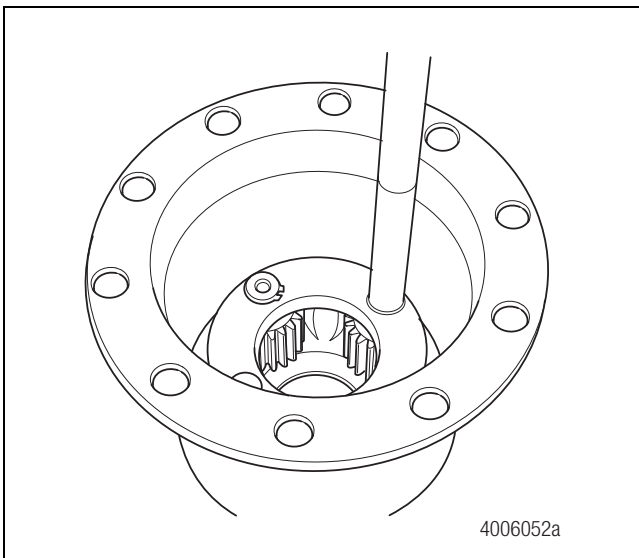

Figure 3.9
2. Use a drift to press out the pinion shafts. Figure 3.9.